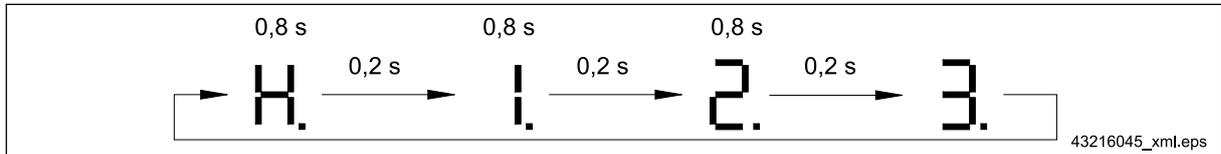

Fig. 10
- Operating hours ⇒ Fig. 10, Page 32,